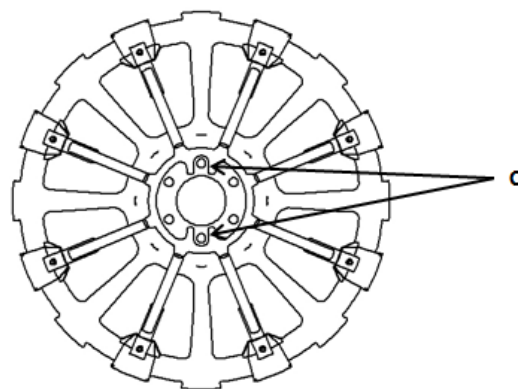

Figure 45: Center Mount Wheel Filler Hole Alignment
**NOTE:** If bolts (B) are removed, they must be reassembled in holes (C) shown below in Figure 45. The bolts must line up exactly in line with the opposite spokes of the lifter wheels or they will not line up correctly on the wheel fillers.